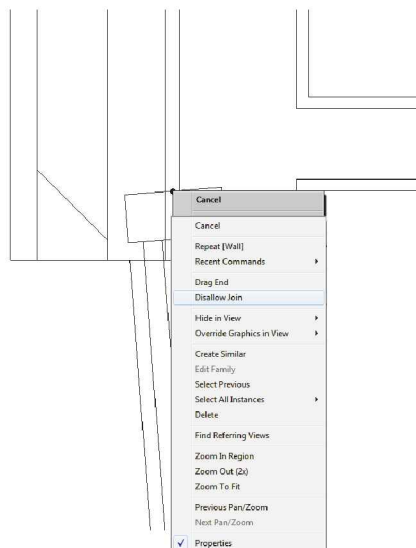

FIGURE 5-4.32
45. Select **Disallow Join** (Figure 5-4.32).